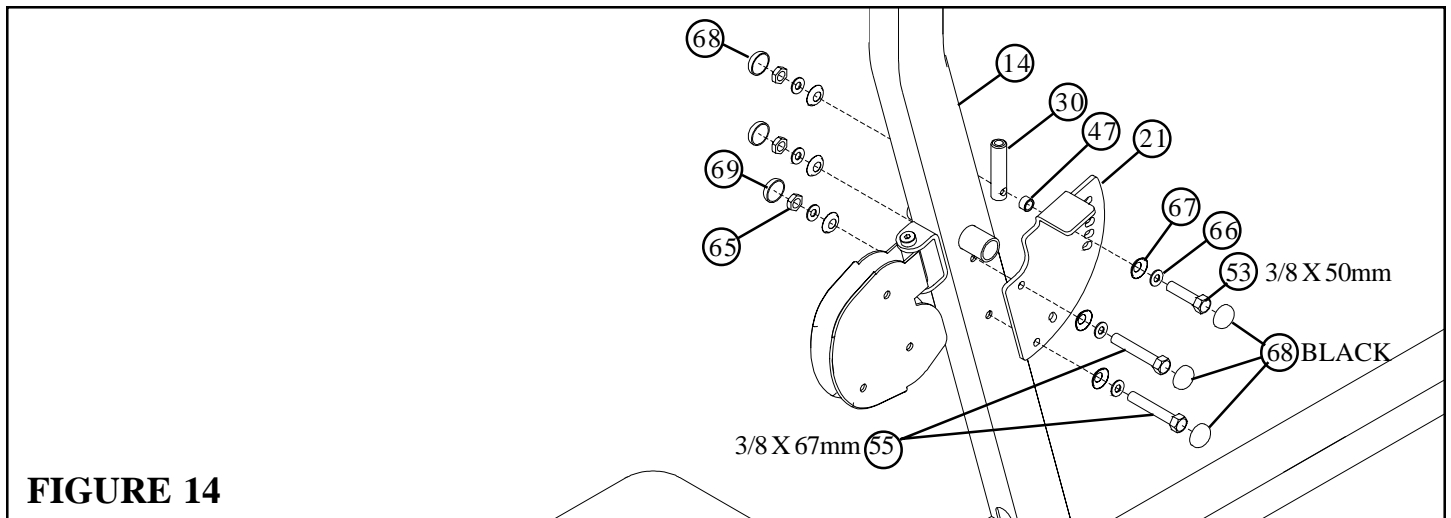

**FIGURE 13**
- Assemble the SWIVEL PULLEY (17) to the LAT/LOW FRAME (14) using one 1/2 X 3 inch SHOULDER BOLT (22), one 3/8 inch RH WASHER (67), one 3/8 inch SAE WASHER (66) one 3/8 inch LOW HEIGHT LOCK NUT (65) and one RH CAP (69) as shown in FIGURE 13. (NOTE: Tighten connection enough to remove play, yet allowing SWIVEL PULLEY (17) to rotate freely.)